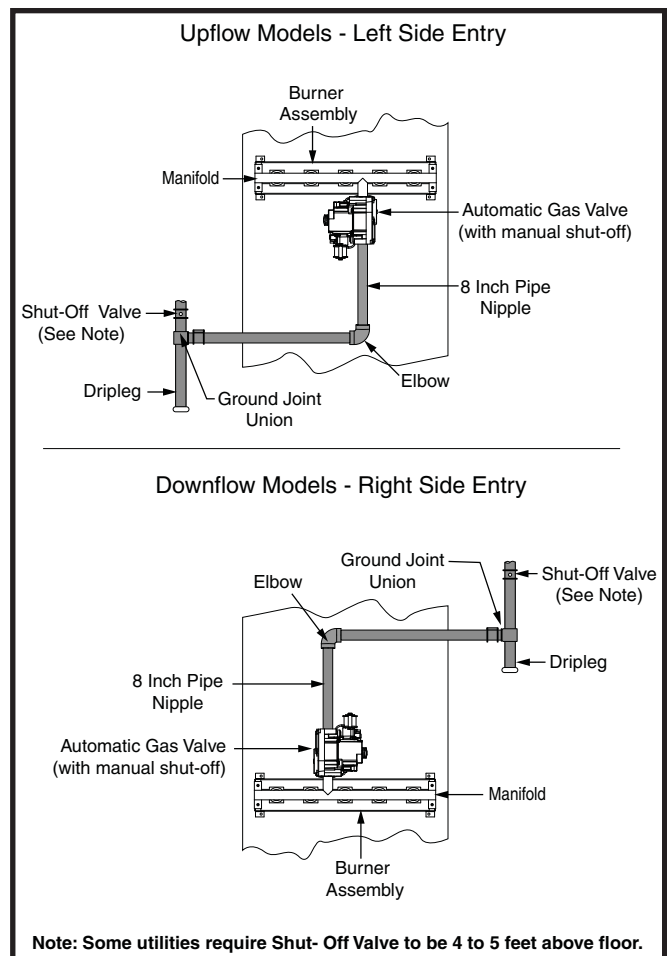

Figure 16. Typical Gas Connection
- Some local regulations require the installation of a manual main shut-off valve and ground joint union external to the furnace as depicted in Figure 16. The shut-off valve should be readily accessible for service and/or emergency use. Consult the local utility or gas supplier for additional requirements regarding placement of the manual main gas shut-off.
- A drip leg should be installed in the vertical pipe run to the unit as shown in Figure 16.
The furnace may be installed for either left or right side gas entry. When connecting the gas supply, provide clearance between the gas supply line and the entry hole in the furnace casing to avoid unwanted noise and/or damage to the furnace. A typical gas service hookup is shown in Figure 16.